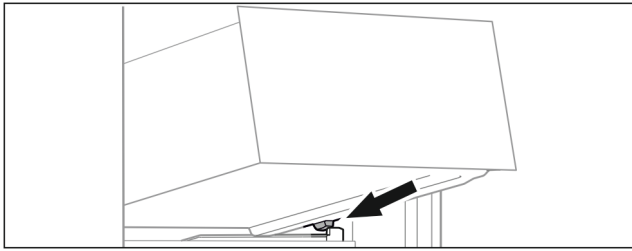

Fig. 66
- Place drawer at an angle behind the stoppers on the moulded rib. (see Fig. 66)